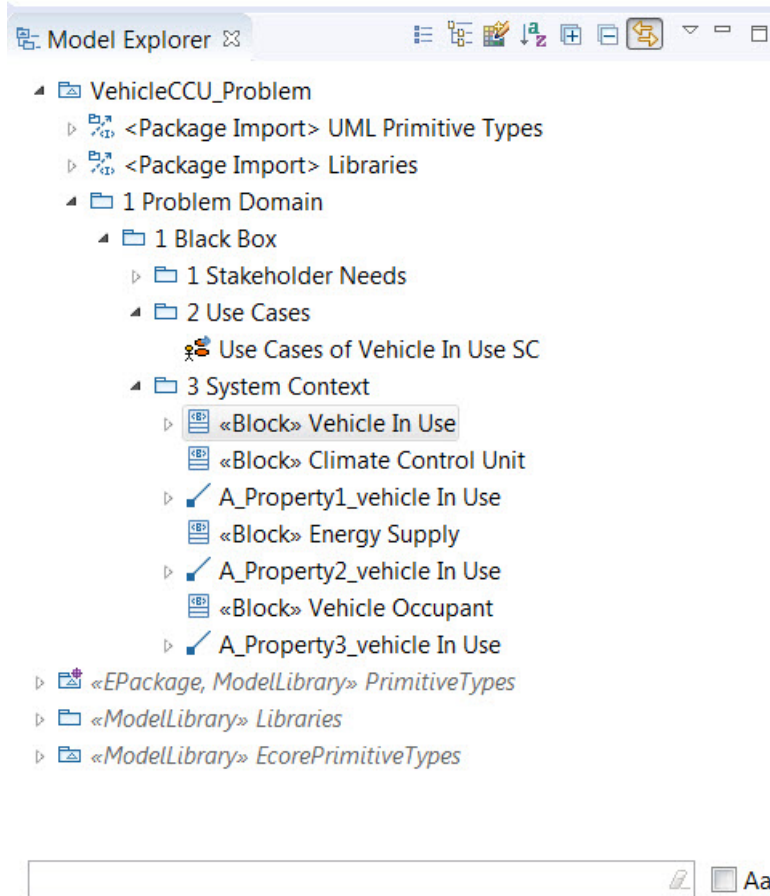

Figure 28: Expand the System Context package
3. In the *Model Explorer* window, click on the arrow to the left of the *3 System Context* package to expand its contents (figure 28).